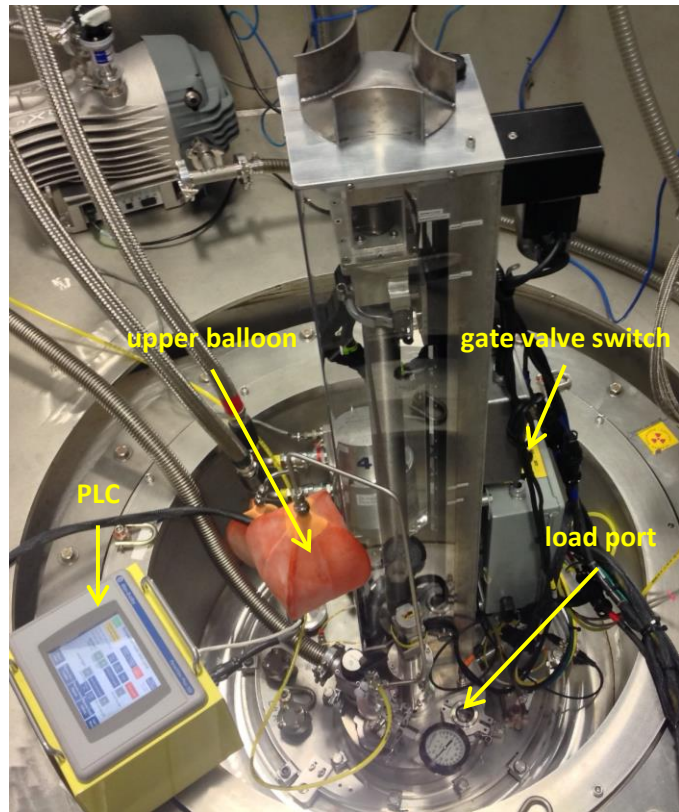

Figure 1. PAC sample changer
- d. Close the gate valve on PAC to isolate the cold head from the loading port area (Figure 1).
- c. Immediately remove the clamp and window from the loading port (Figure 1), leaving the He flowing.